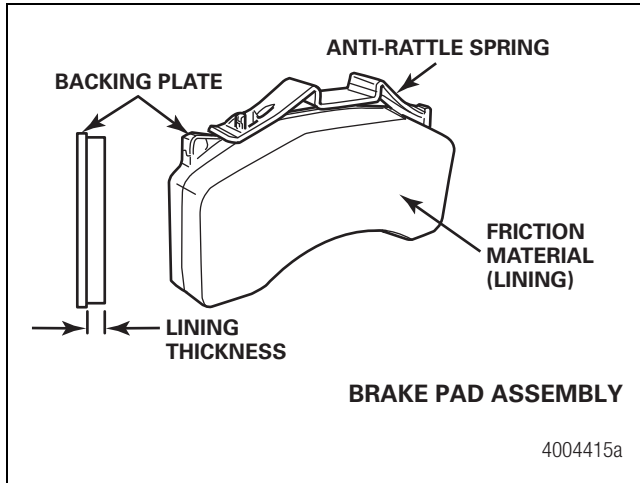
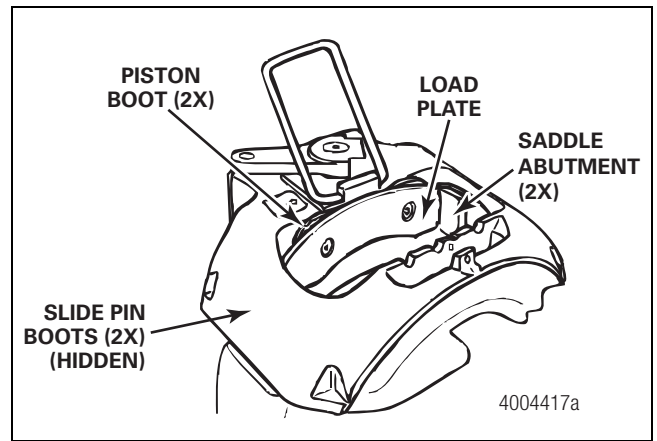

Figure 6
Figure 8
- Inspect the brake pads for cracked friction material (lining). Check if the friction material is loose or detached from the backing plate. Inspect the anti-rattle springs attached to the brake pad. Replace bent, cracked or broken springs. Figure 6.
- Measure the friction material (lining) thickness. Replace the brake pad assembly before the lining thickness reaches 0.200-inch (5.1 mm). Figure 6.
- Inspect the caliper boots. If the boots are damaged, replace the caliper. Figure 8.
1. Slide the caliper **OUTWARD**. Install the **OUTBOARD** pad and spring assembly into the **OUTBOARD** side of the caliper. Confirm that the load plate is correctly located between the saddle abutments. Figure 8.
- B. Verify that the load plate is in full contact with the brake pad backing plate. Figure 6 and Figure 8.